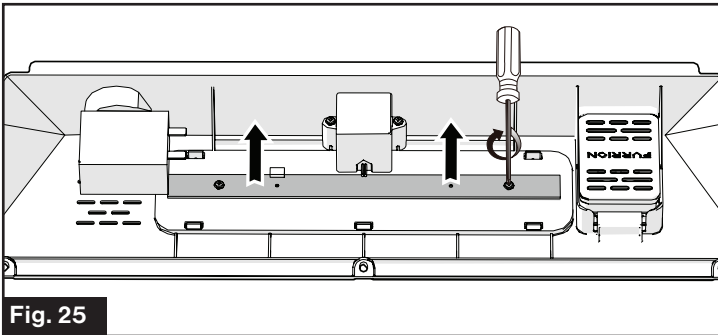

Fig. 25
3. Remove the clip and two screws to replace the old LED with a new LED. Fix the clip and tighten the screws. Then reinstall the cover. (Fig. 25)